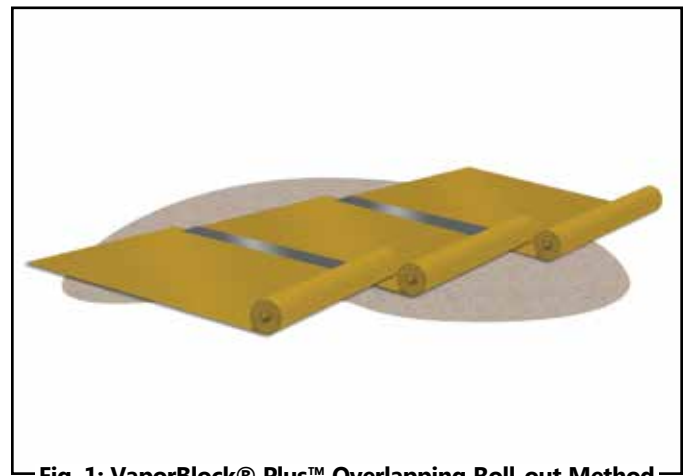

Fig. 1: VaporBlock® Plus™ Overlapping Roll-out Method
- 1.2. Unroll VaporBlock® Plus™ running the longest dimension parallel with the direction of the pour and pull open all folds to full width. (Fig. 1)